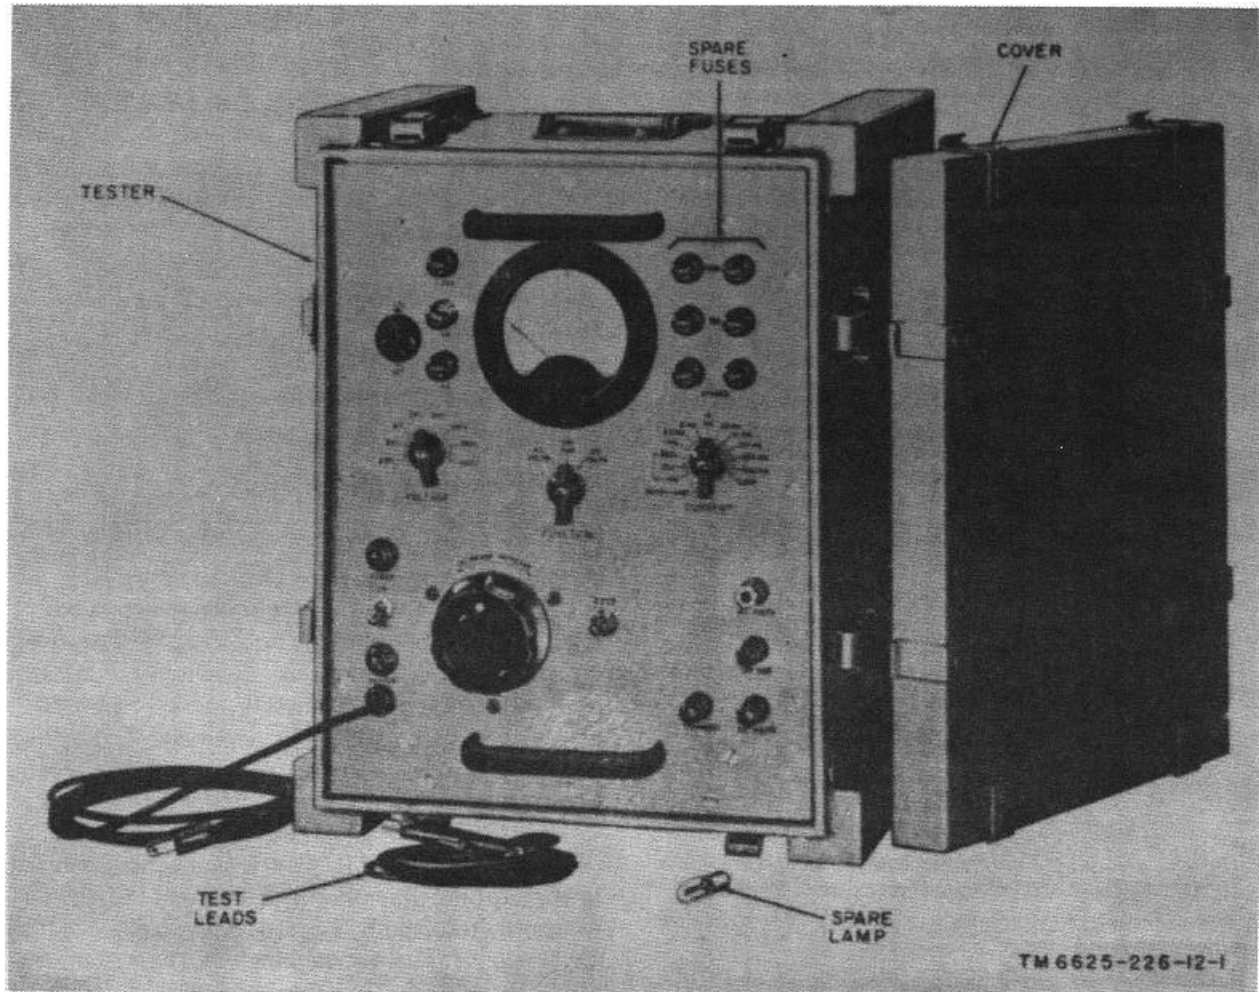

Figure 1. Electrical meter test TS-656/U.
5. Components of Electrical Meter Test Set TS656/U (fig. 1)
The test set (fig. 1) is a self-contained metered power supply. The major components of the test set are the tester and the test leads.
- (3) Slit the moisture-resistant tape and open the moisture-resistant corrugated carton. Remove the technical manual.
- (4) Open the moisture-vaporproof barrier and remove the test set wrapped in cushioning material.
- (5) Remove the cushioning material and expose the test set.
9. Checking Unpacked Equipment (figs. 1 and 2)